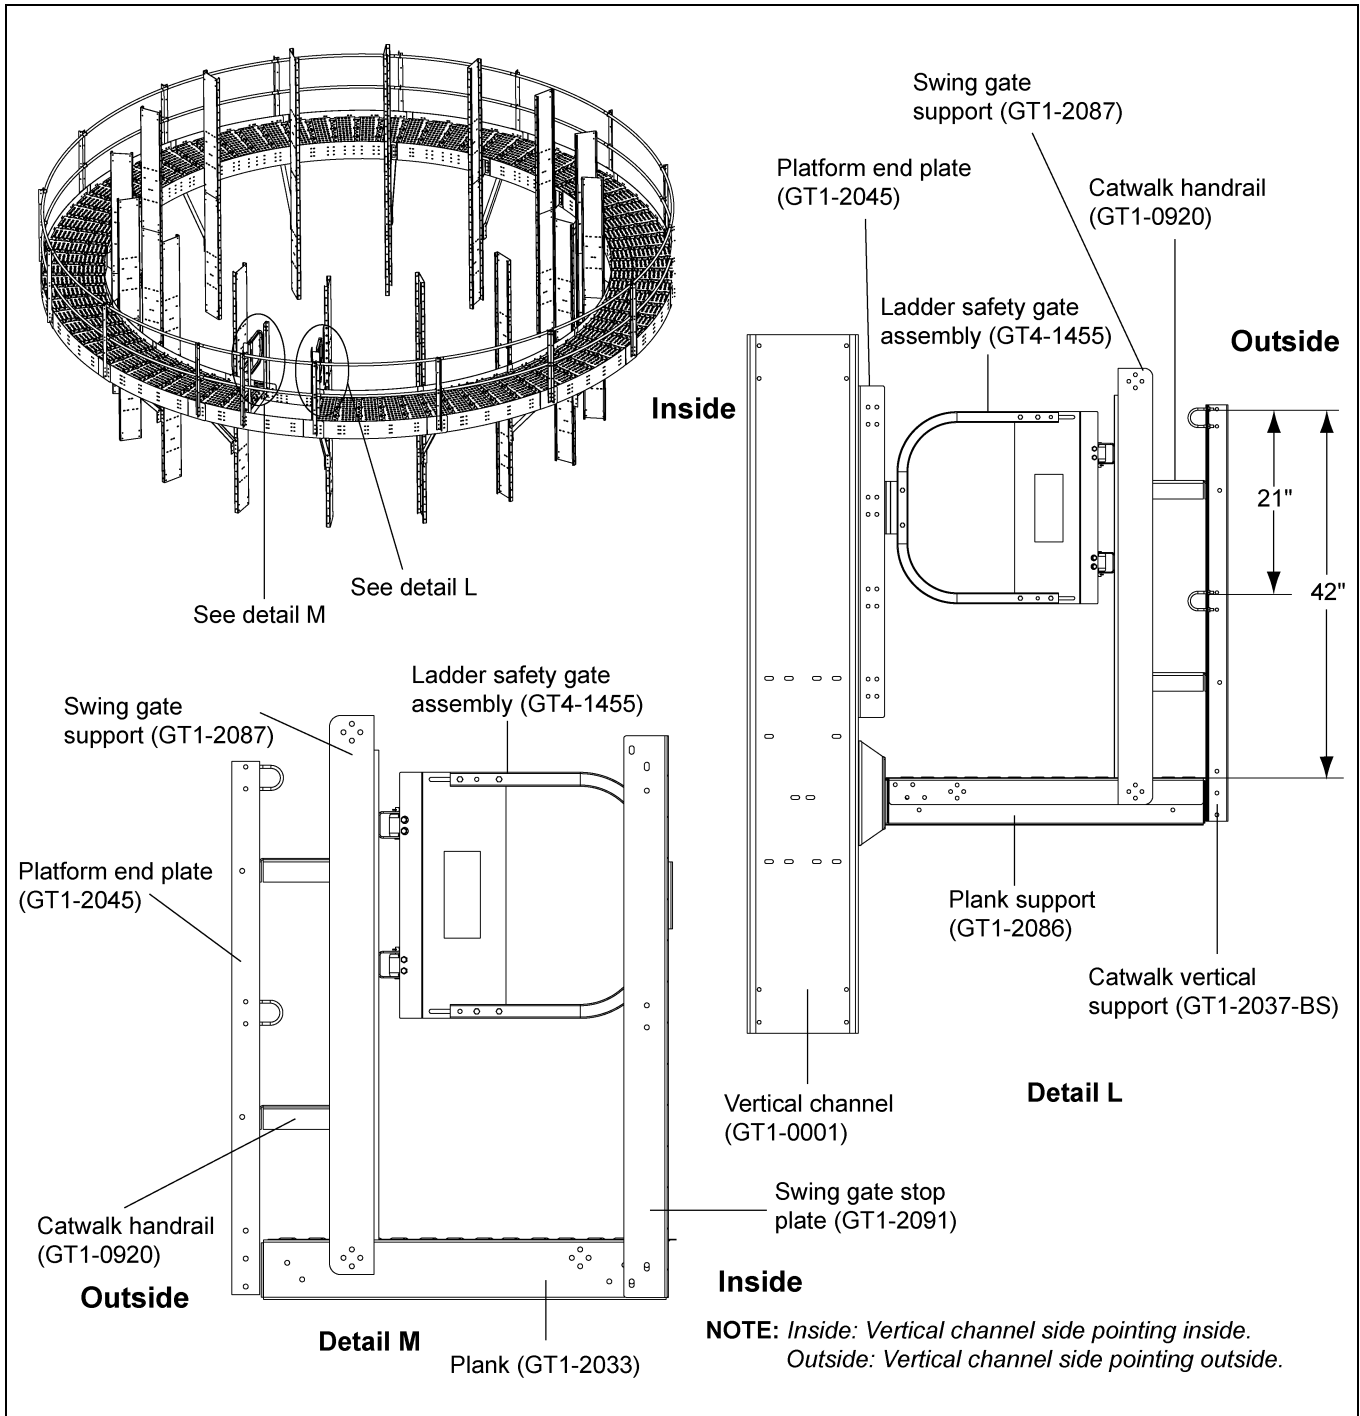

Figure 4Y
5. Install the ladder safety gate assembly (GT4-1455) to the swing gate support (GT1-2087) using 3/8"-16 x 1" JS grade 8 or grade 8.2 bolts (S-7485) and 3/8"-16 ZN grade 5 nuts (S-968). (See detail L in Figure 4Y.)
6. Install the ladder safety gate (GT4-1455) to the swing gate support (GT1-2087) and attach the stop plate (GT1-2091) to the ladder opening toe board (GT4-1465) and the plank (GT1-2033) using 3/8"-16 x 1" JS grade 8 or grade 8.2 bolts (S-7485) and 3/8"-16 ZN grade 5 nuts (S-968). (See detail M in Figure 4Y.) The distance between the plank and handrail is 42".